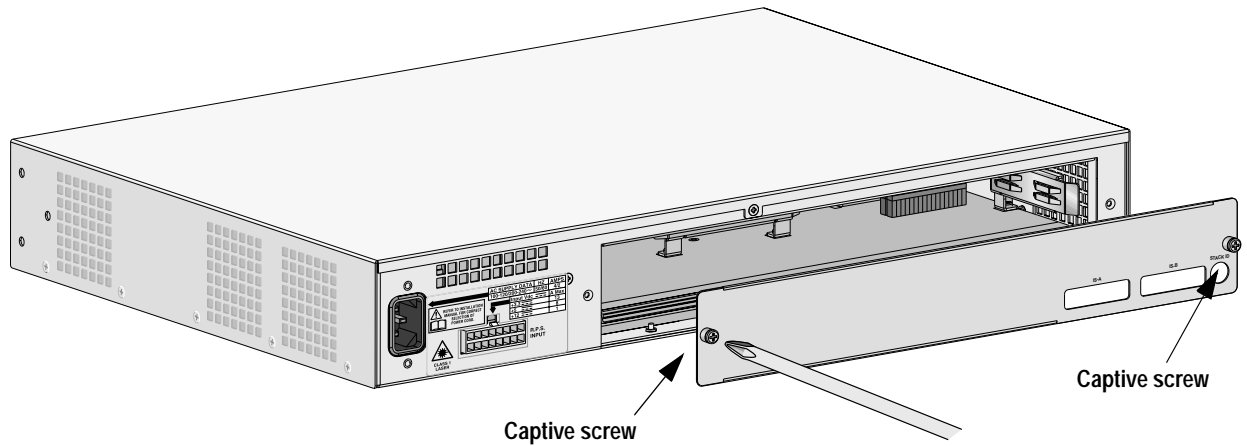

Figure 3-10 Removing the Blank Panel from an Ethernet Switch
6. Remove the blank panel from the back of the switch selected to be the master switch by unscrewing the two captive screws. Refer to Figure 3-10.